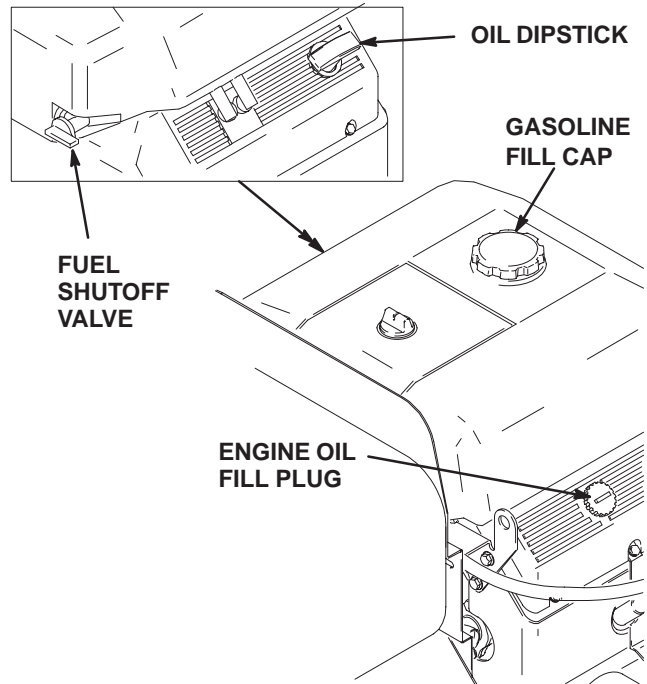

Fig 3 7872A
- a. Remove the dipstick. See Fig 3.
- a. Close the fuel shutoff valve. See Fig 3.
- c. Remove the gasoline fill cap and fill the tank. Be sure the air vent in the fill cap is not plugged so gasoline can flow to the carburetor, then replace the cap. See Fig 3.